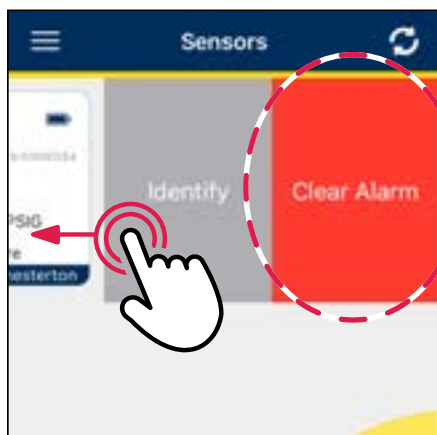

Figure 25
- For **IOS**: **swipe left** on the desired sensor (see figure 25). The identify/clear alarm option will appear.